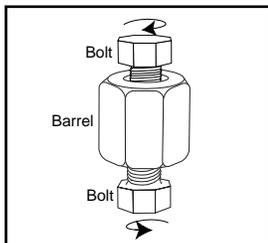

Figure 3 - Full assembly of ECONO-PRESS.
3. Insert the second bolt into the barrel and tighten by hand (*Figure 3*).